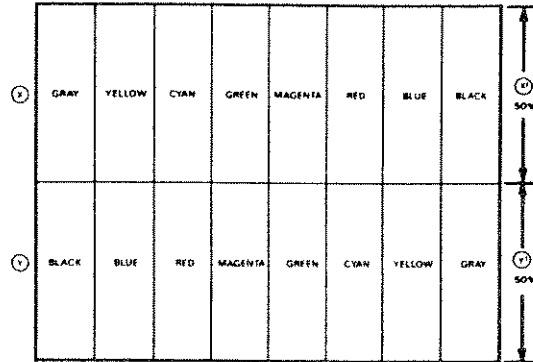

Figure 5.8
5.1.4 Split Reverse Color Bar Pattern (See Figure 5.8)